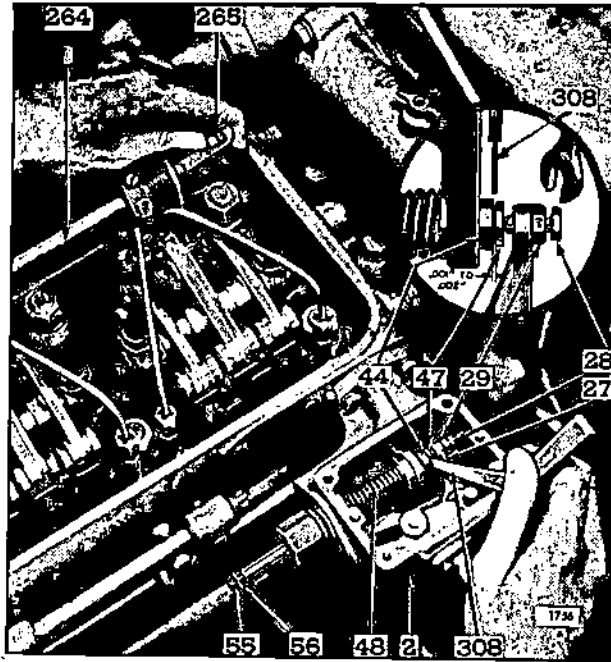

Fig. 6 - Adjusting Governor Gap
8. Check the gap between the low speed spring cap and the high speed plunger with a .0015" feeler gage as shown in Fig. 6. If the gap setting is incorrect, loosen the lock nut and adjust the gap adjusting screw.